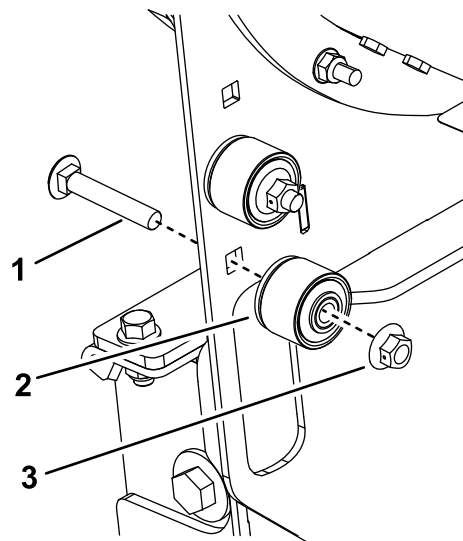

Figure 26
10. Use the fasteners to store the bushing assemblies on the left side of the blower frame (Figure 26).